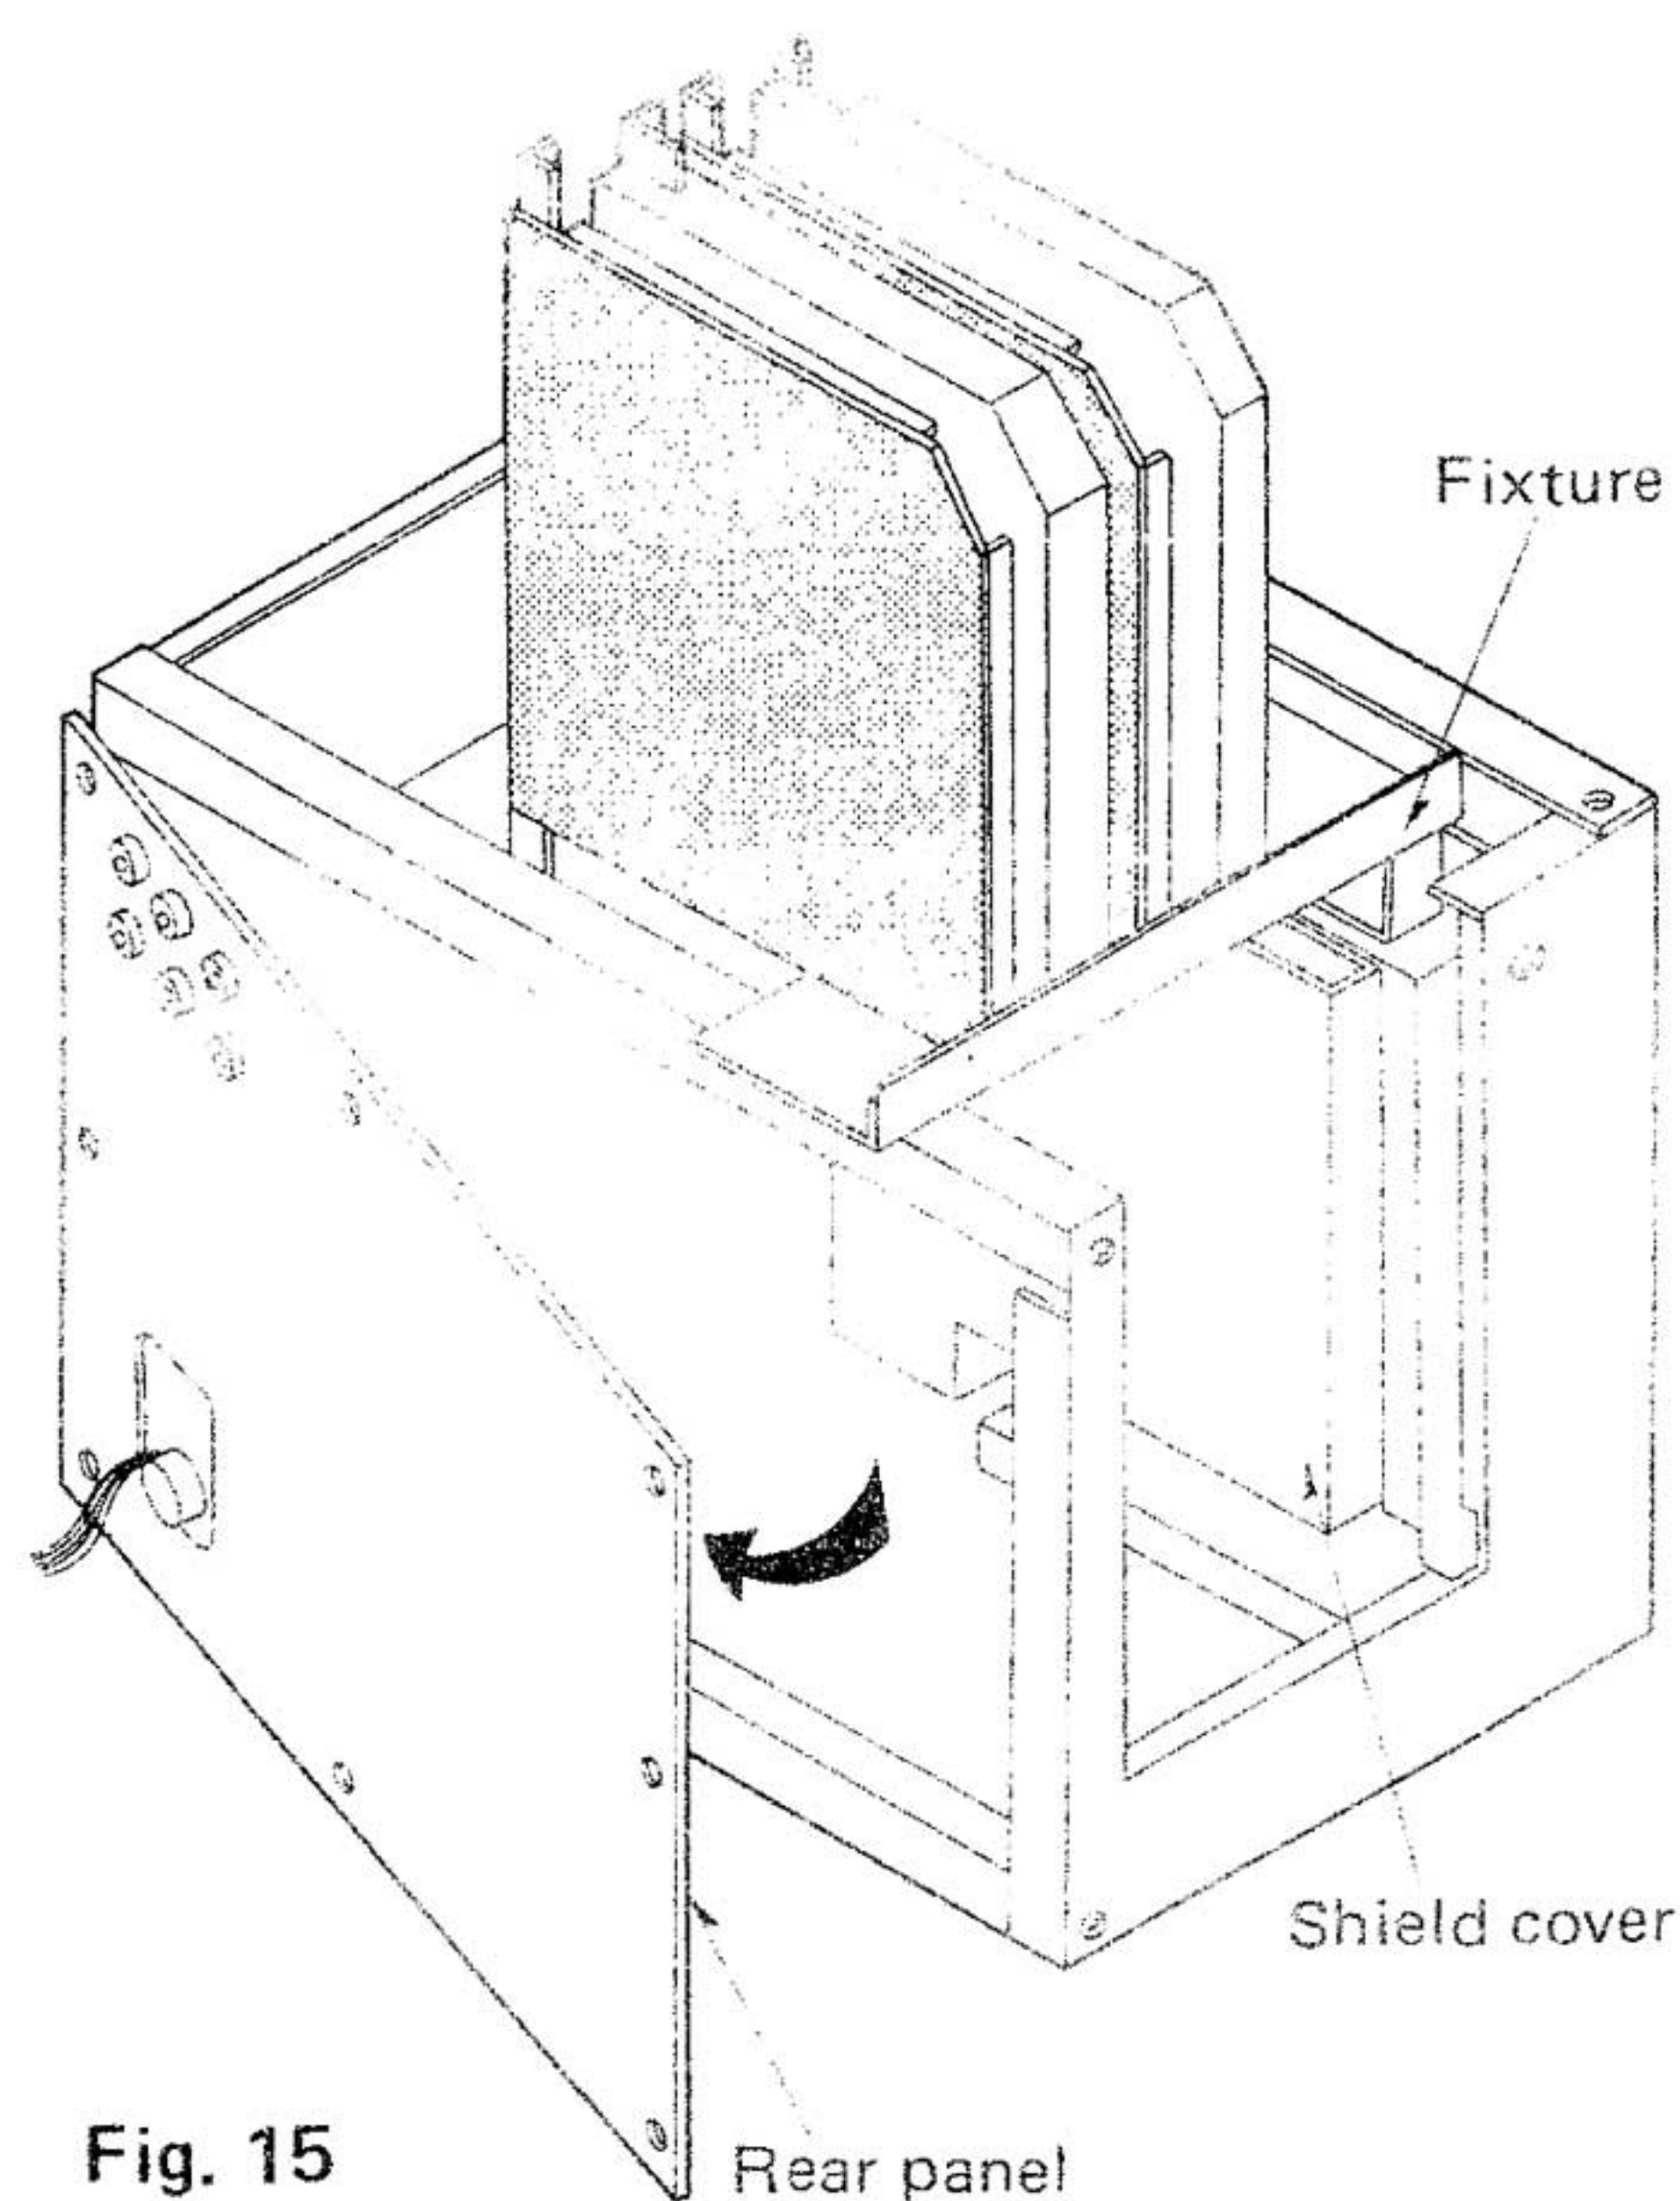

Fig. 15
2. Remove the rear panel and open the cabinet in the direction of the arrow. (See Fig. 15).
3. Raise the printed circuit board as in Fig. 15.